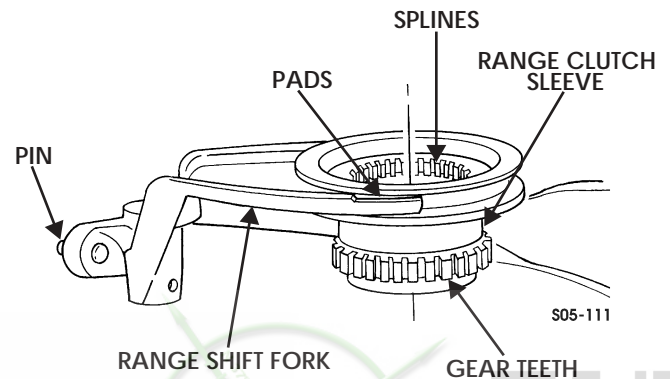

Figure 5-164: Fork Location
1. Inspect range shift fork for burrs, bends, breaks, loose pin, and worn pads. Remove minor burrs and replace worn or missing pads. Replace fork if otherwise damaged (Figure 5-164).